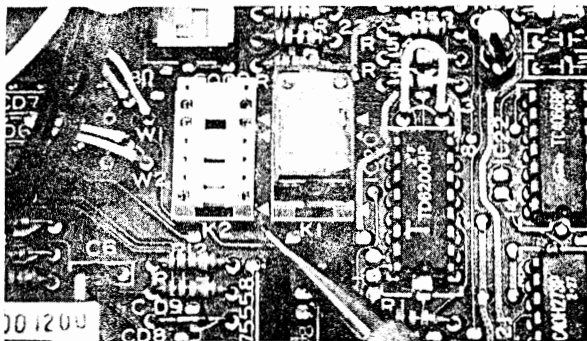

FIGURE 5
05.02 To equip either of the two relay service functions; obtain the optional relay from your Toshiba supplier and install it in the proper location on the MTOU, per Figure 5.